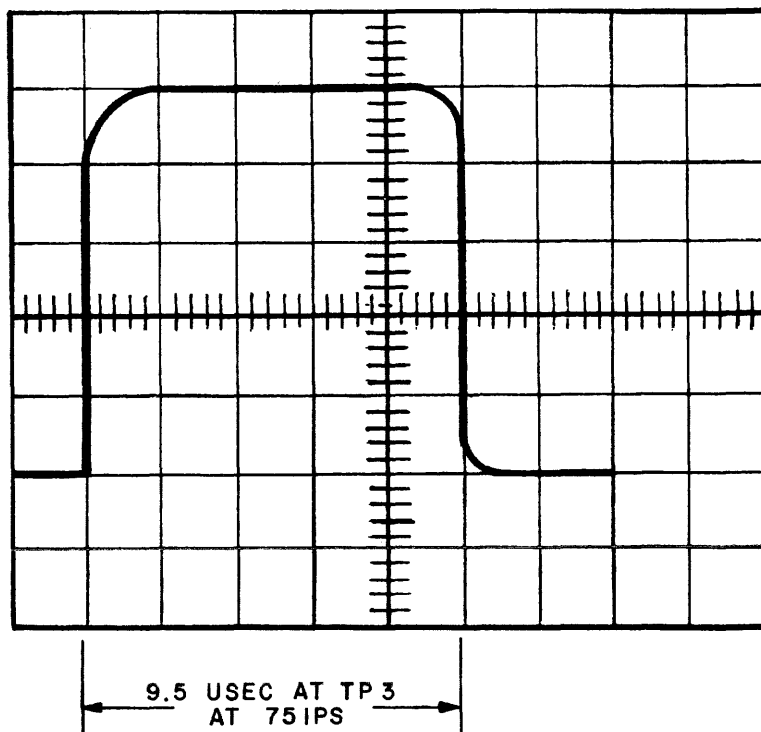

Figure 53. Read Strobe Delay Adjustment, Dual Gap Systems
4. A positive pulse will be observed at test point 3. See Figure 53. Adjust R49 for a pulse width of one-half frame time plus 1.1  $\mu$ sec. At 75 ips this should be 9.5  $\mu$ sec. Frame time is defined as  $\frac{1}{VD}$ , where V is the transport velocity and D is the operating data density.